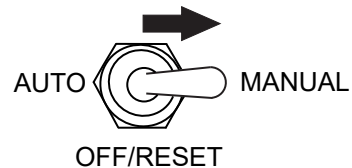

Figure 100. Auto Start/Stop Switch (Manual Position)
9. Place the Auto Start/Stop switch (Figure 100) in the "Manual" position to start the engine.